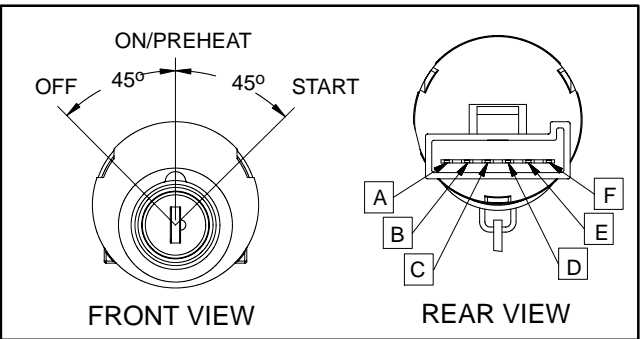

Figure 16
5. The ignition switch terminals are identified as shown in Figure 16. The circuit logic of the ignition switch is shown in the chart below. With the use of a multimeter (ohms setting), the switch functions can be tested to determine whether continuity exists between the various terminals for each switch position. Verify continuity between switch terminals. Replace ignition switch if testing identifies that switch is faulty.